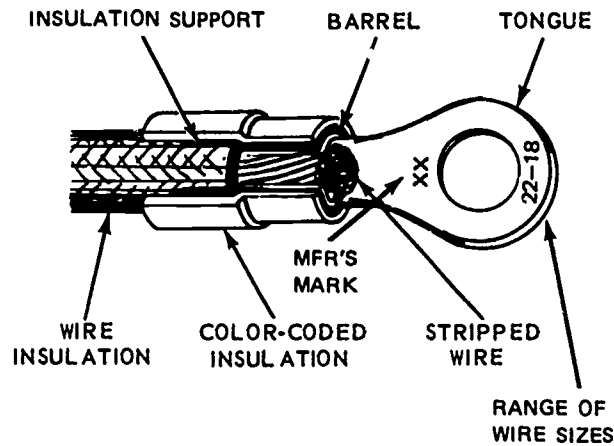
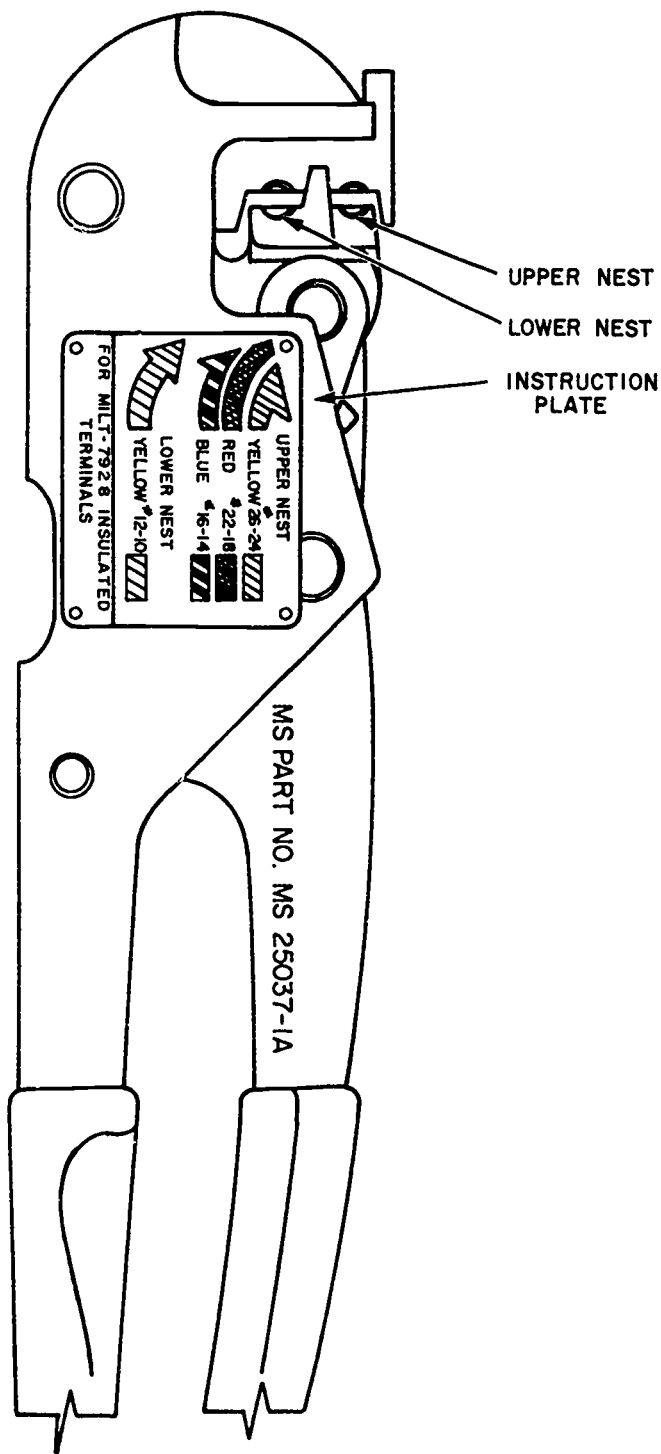

Figure 1. Preinsulated Terminal Lug - Cut-Away.
Figure 2. Crimping Tool.
a. The crimping tool, figure 2, is used for connecting (crimping) preinsulated terminals (terminals with plastic covered barrels), in figure 1, and splicing connectors to electrical wiring.
b. Insulated terminals and connectors are color coded for the size of electrical wiring with which they are to be used. The color coding is done by making the insulation of each size of terminal or connector a different color. The instruction plate on the crimping tool, figure 2, shows the nest (jaw section) that is to be used for the size of the wire and color of the terminal or connector.